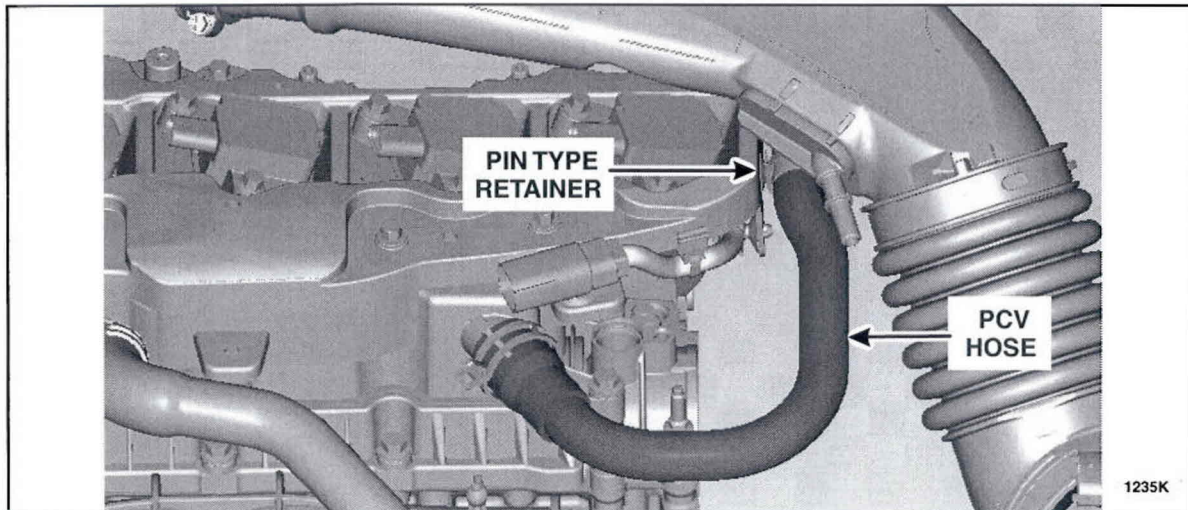

FIGURE 8
4. Verify that the PCV hose pin type retainer is pressed firmly in the side of the coil bracket. See Figure 8.